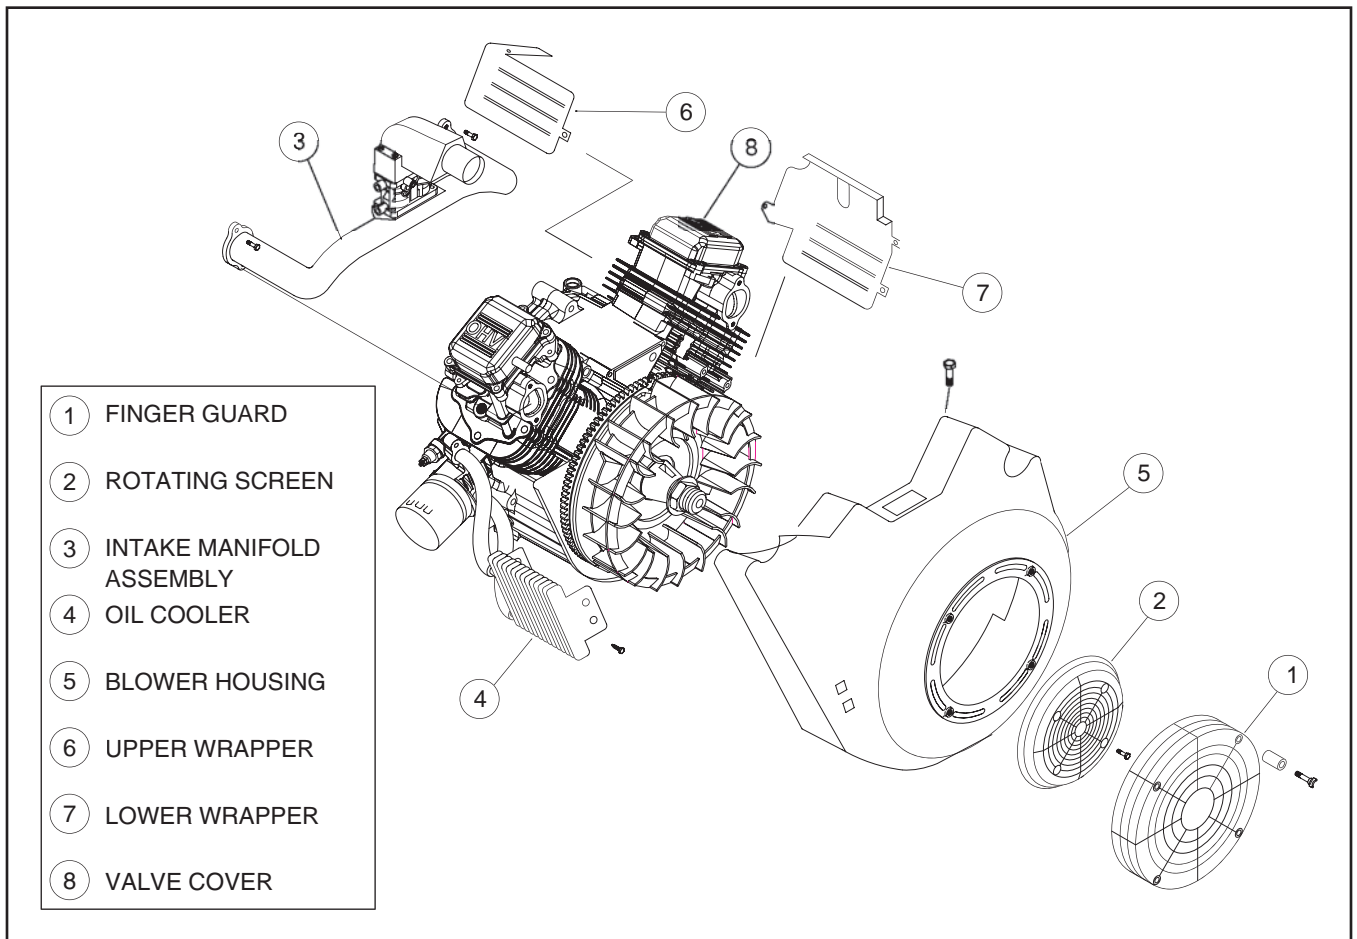

Figure 5-2.
1. Remove the parts depicted in Figure 5-2.